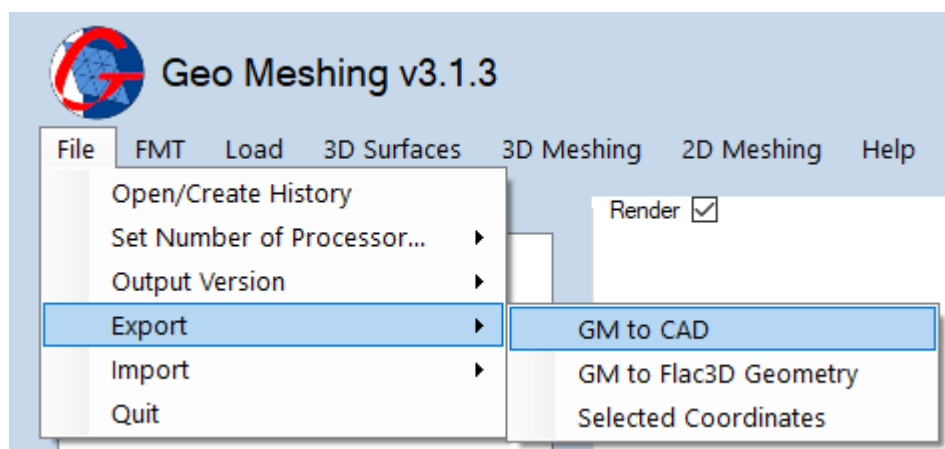

Figure 11: File Menu – Export.
- **File Menu, Export:** This option (shown in Figure 11) has a submenu with three options; *GM to CAD Script*, *GM to Flac3D® Geometry and Selected Coordinates*.